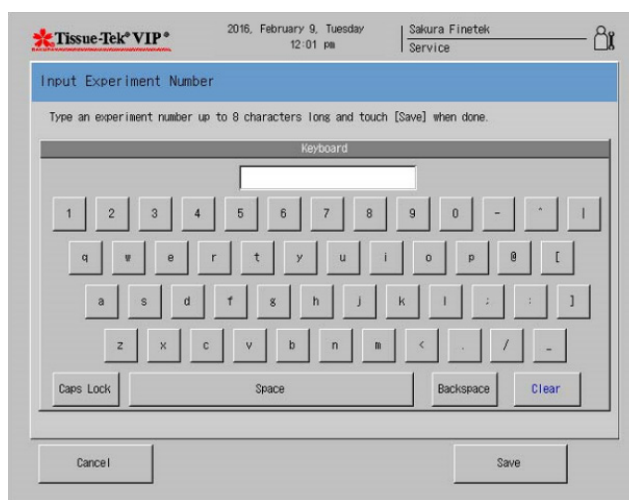

Figure 4-E
- The Experiment Number screen is displayed (Figure 4-E).